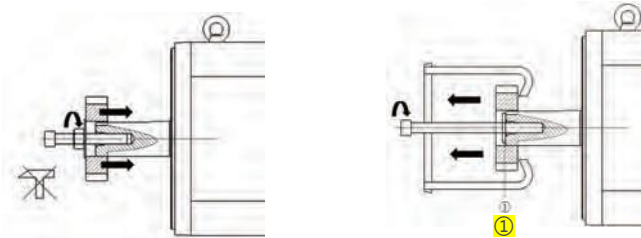

Figure 7 Installation and Disassembly of the Transmission Unit ①: Gasket (for protecting shaft extension alignment)
5. When installing transmission units such as couplings, pulleys, or loads, ensure that the motor shaft centerline aligns with the load shaft centerline, and avoid exceeding the maximum radial and axial forces on the shaft; utilize the threaded holes on the shaft journal; heat the transmission unit if necessary; during disassembly, use washers to protect the shaft journal center, as shown in Figure 7.